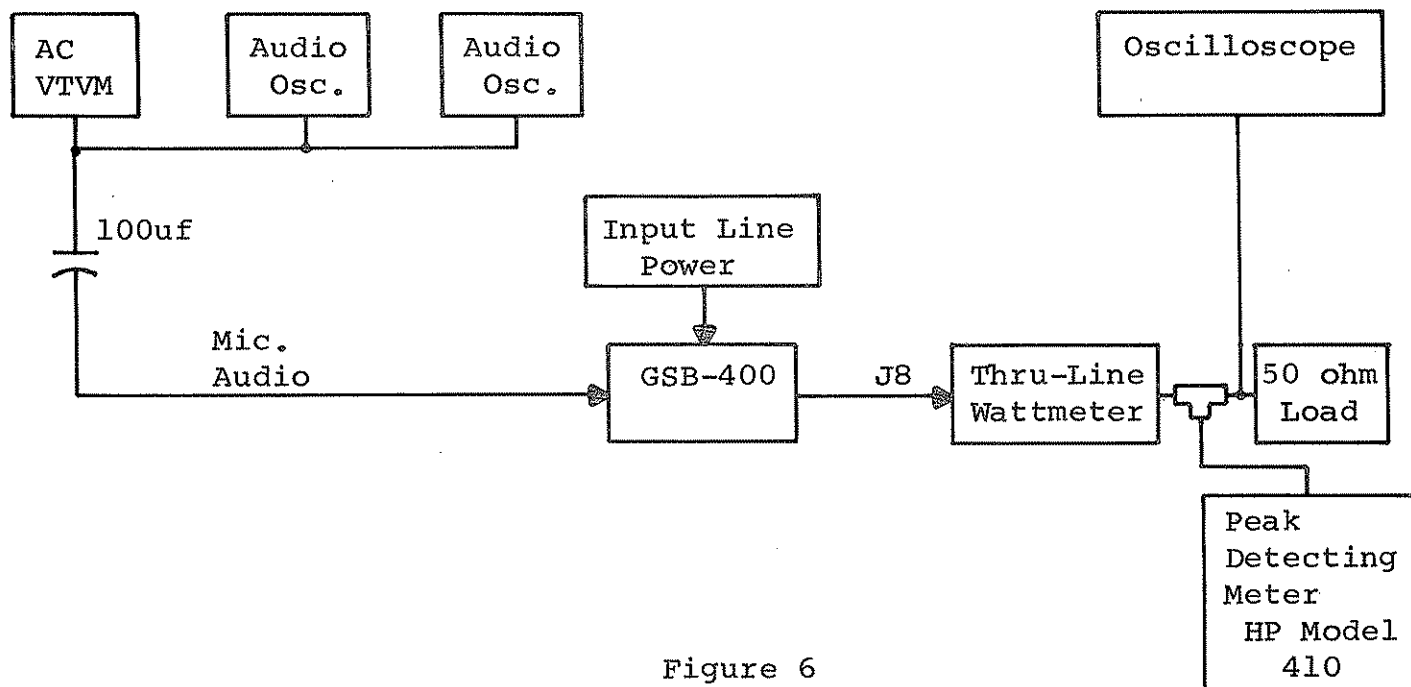

Figure 6
- (1) Connect test equipment, as shown in Figure 6.
- (2) ON/OFF/REC switch in "ON" position.
- (3) Channel selector in desired frequency position.
- (4) Allow 15 minutes for equipment warm-up.